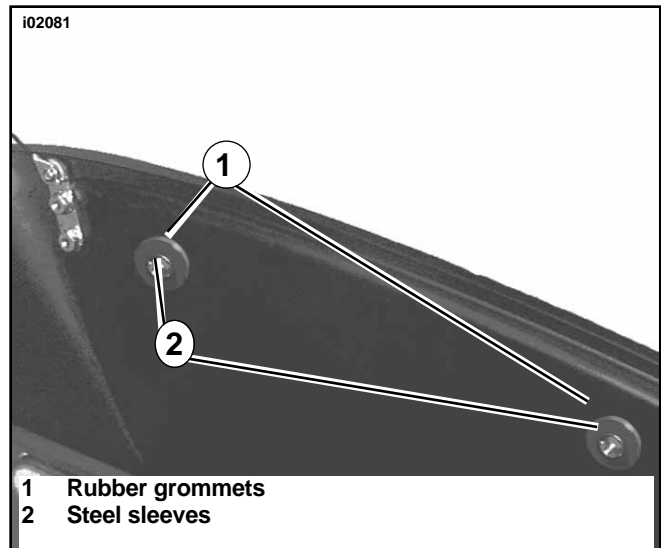

Figure 15. Install Grommets and Sleeves
31. See Figure 15. Install rubber isolator over support bracket with "flat" side facing down. Repeat for the opposite side.
32. See Figure 15. Install rubber grommets (Part No. 90148-00) into holes in side of saddlebag as shown.